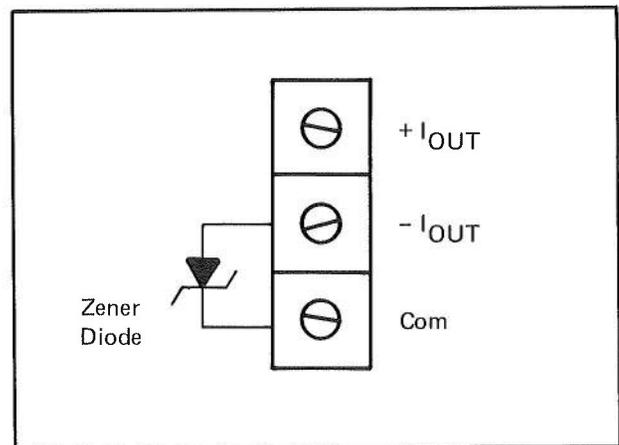

Figure 14 – Zener Diode Connection
9. When using the current output with very large inductive loads, a zener diode can be connected between -I out and common to prevent damage to the output transistor (Figure 14). This diode should have zener voltage of about 50 volts.